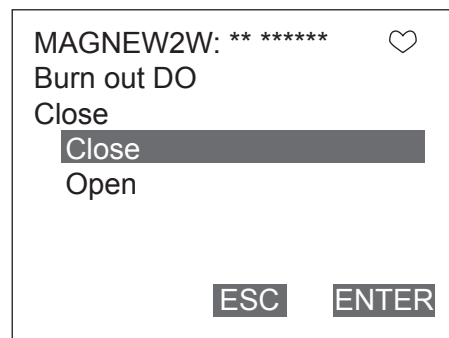

Fig. 7-37.
3. After pressing F4 (ENTER), Fig. 7-37. will then be displayed. Fig. 7-37. shows that the totalized value has been reset. After resetting, display will automatically return back to the previous display in 3 sec.